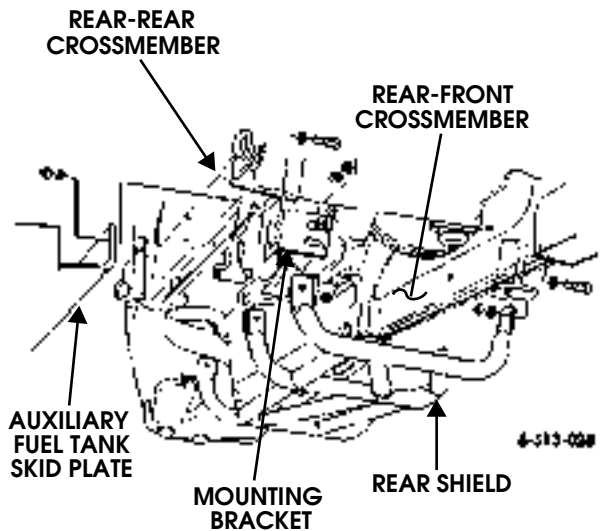

Figure 13-39: Rear Shield
1. Remove three locknuts, washers, bolts, washers, and spacers securing rear shield to rear-front crossmember. Discard locknuts (Figure 13-39).
1. Install three mounting brackets on rear-rear crossmember with six spacers, washers, bolts, washers, and locknuts. Tighten locknuts to 24 lb-ft (33 N•m) (Figure 13-39).